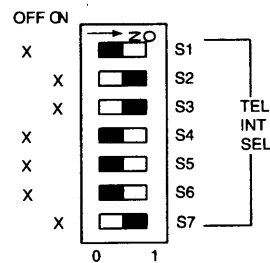

Figure 5-5: Page Port Telephone Selector Switch
2. Move the dip switches on the module to the position shown in Figure 5-5 below. Use the tip of a pen or other pointed instrument to move the switches.